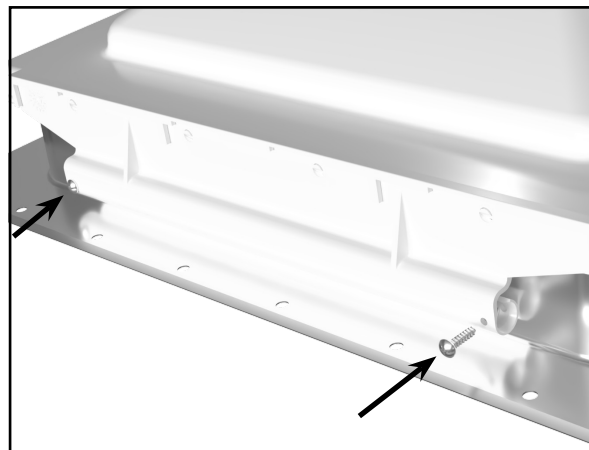

Figure 11
- c. Center the hinges with each other, close the lid (don't worry about the cross bar and operator yet.), and install the set screws in the holes at each end of the lid hinge. **(Figure 11)**